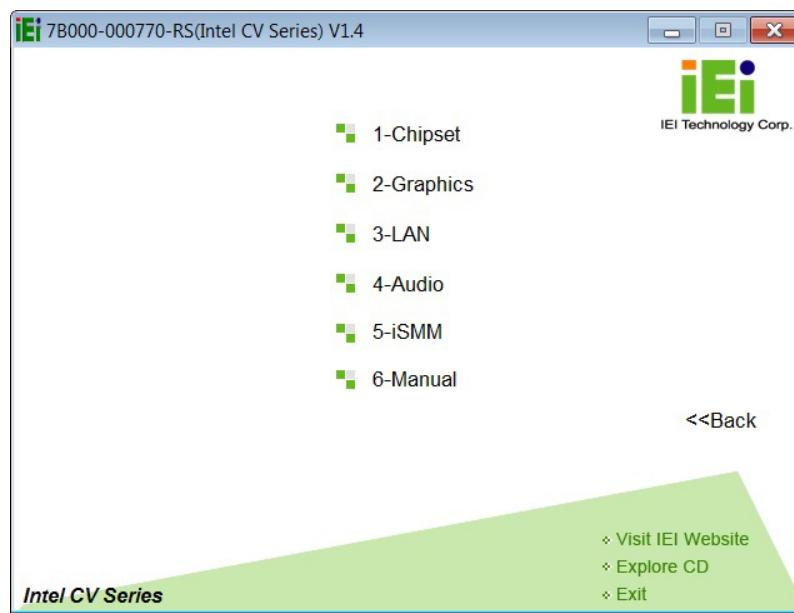

Figure 6-2: Drivers
Step 4: The list of drivers in **Figure 6-2** appears.
Step 1: Access the driver list shown in Figure 6-2. (See **Section 6.2**)